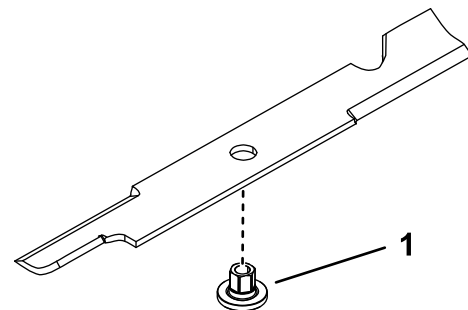

Figure 94
1. Install the bushing through the blade with the bushing flange on the bottom (grass) side of the blade (Figure 94).